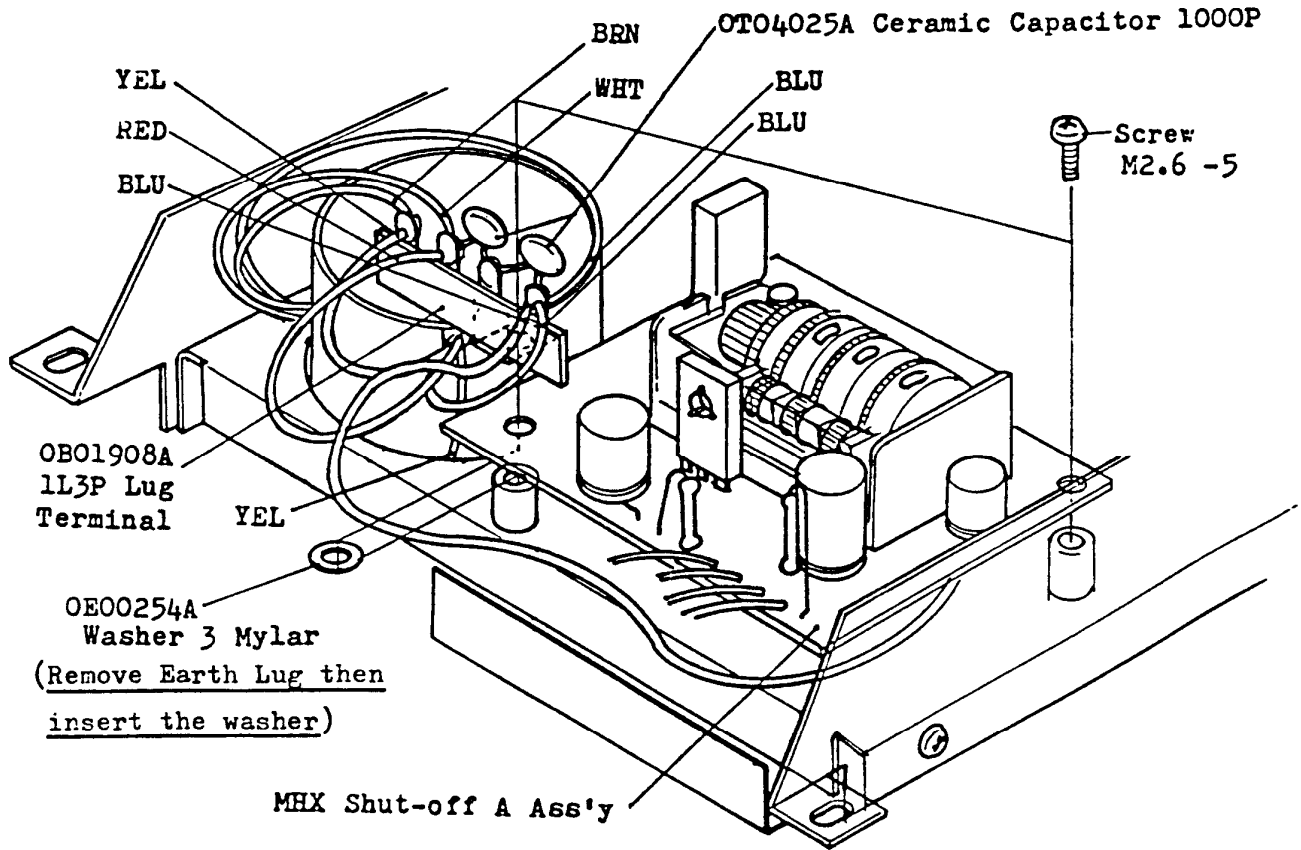

Fig.16
Connect the motor signal wires referring to Fig.16, 17 and 19.
- (2) Remove earth-lug from the auto shut-off ass'y then insert the mylar washer between auto shut-off ass'y and chassis as illustrated in Fig.16.
- (3) Assemble the lug terminal and ceramic capacitors, referring to Fig.16 and 17.